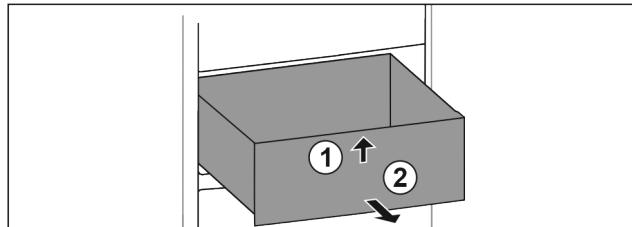

Fig. 63
- Lift up drawer at the front. Fig. 63 (1)
- Remove drawer to the front. Fig. 63 (2)